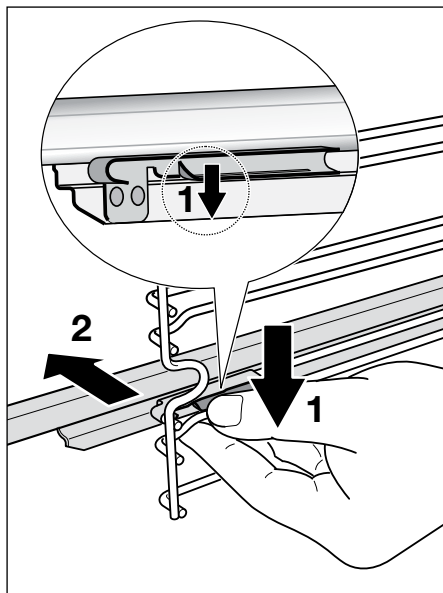

Fig.21 Removing the sliding shelf supports
- 3 Find the safety locks. These are the tabs that clip over the wire of the side rack (arrow 1 in Fig. 21).
- 4 Pull the safety locks away from the wire to release the wire (arrow 2 in Fig. 21).